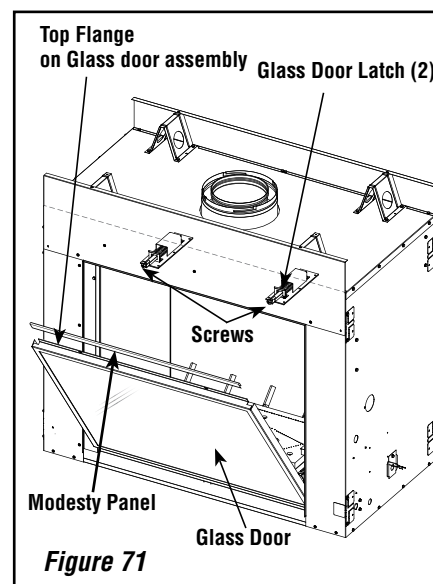

Figure 71
Installing Glass Doors, Barrier, and Modesty Panel (see Figure 71)
- b) Position the door in front of the firebox opening, with the top of the door held away from the fireplace (see **Figure 71**).
- d) Using a #3 Phillips screwdriver, fasten the door frame to the door latches with the two (2) latch screws. The latches should pull forward to engage the door frame.
- 2) Install the modesty panel on the top flange of the glass door, as follows (**Figure 71**):
Removing Glass Doors, Barrier and Modesty Panel (see Figure 71)
- a) See **Figure 71**. While holding the top of the glass door frame in place, use a #3 Phillips screwdriver to remove the two (2) screws securing the door frame to the two (2) door latches.
- b) Carefully tilt the top of the glass door frame away from the unit (as shown in **Figure 71**), and then lift the door assembly up and out of the lower track.